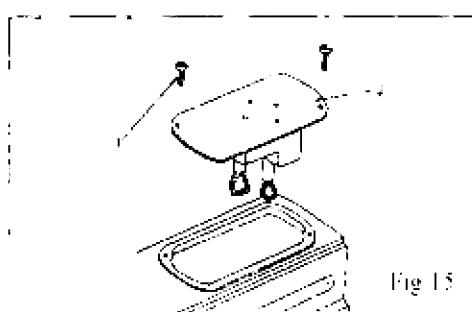
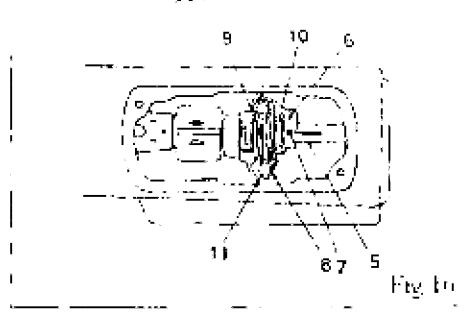

Fig.15
Fig.16
DOG (Fig.15, Fig.16)
21. ADJUSTMENT OF THE CLEARANCE BETWEEN FEED FORKED CONNECTION AND FEED FORK COLLAR (Fig.15, Fig.16)